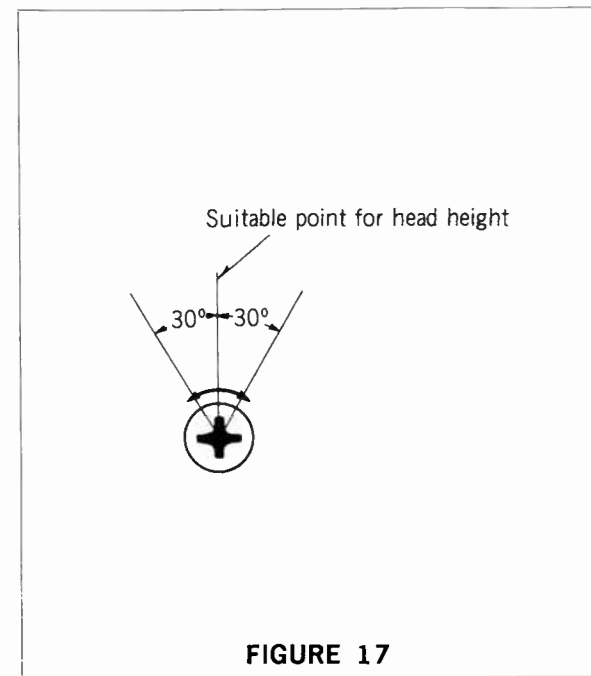

FIGURE 17
6. Even if adjusted item 5 above, when the value is out of the standard, slightly adjust the head height adjust screw (A) but within 30 degrees far from the suitable point for head height as show in figure 17.